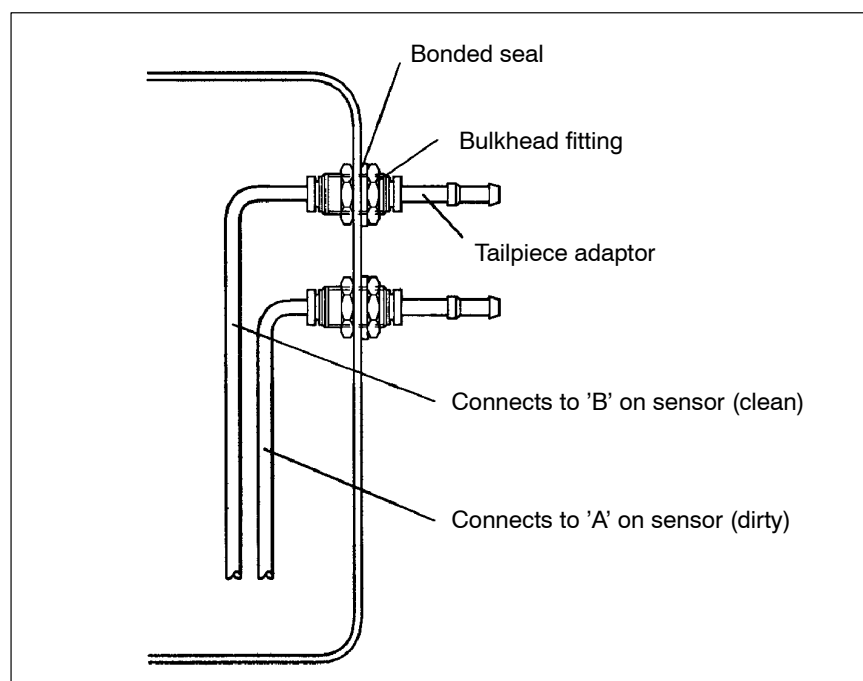

Fig. 4-12 Assembly of fittings
4. Fit the two bulkhead fittings, tailpiece adapters and bonded seals as shown in Fig. 4-12.
7. Connect the pressure transducer to the bulkhead fittings as shown in Fig. 4-12, using the small diameter tubing.
10. Fit clean and dirty side label to outside of the box in the position as shown in Fig 4-12.
Discharge equipment such as belt feeders, rotary valve or screw conveyor should be separately controlled but interlocked with the unit controller (see Fig. 4-12).